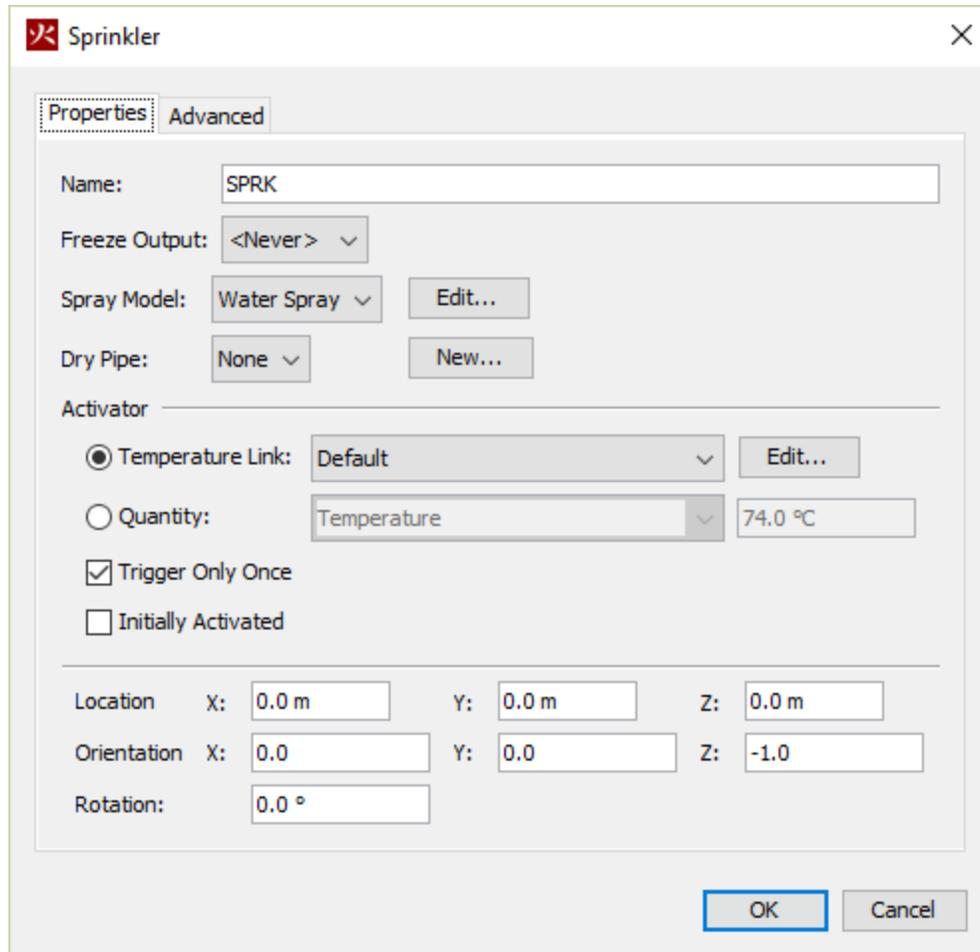

Figure 120. Creating a new sprinkler
1. On the **Devices** menu, click **New Sprinkler**. This will display the **Sprinkler** dialog, Figure 120.